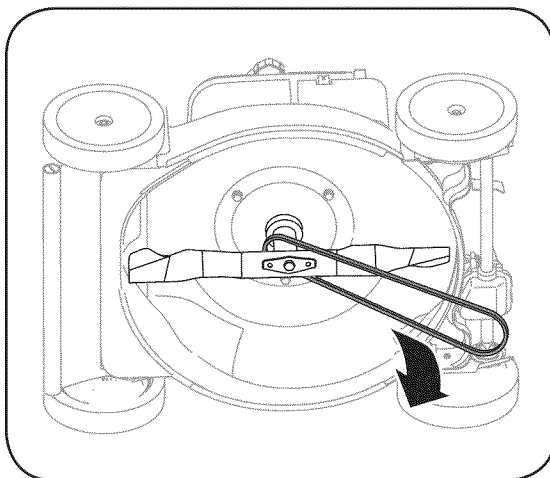

Figure 5-5: Remove belt from around blade.
3. Push transmission up a little and slide belt off the transmission pulley. Lift mower to access belt from underside of mower. Slide belt off of engine pulley and around the blade. See Figure 5-5.